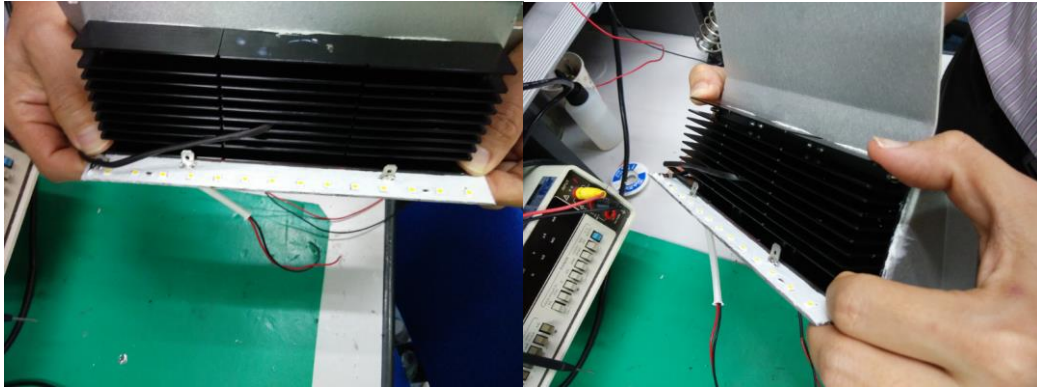

Figure 3: ULE269VW retrofit with backlite mounted
- Stick the backlite LED module below the black heat sink as shown in Figure 3.